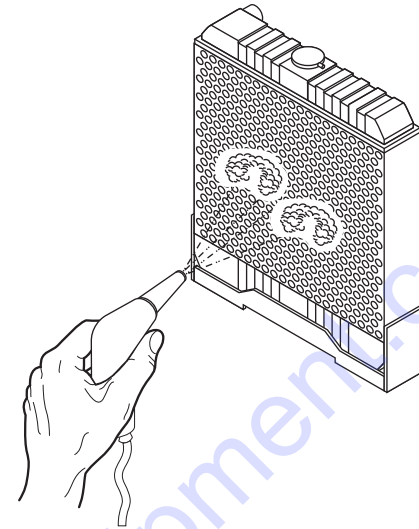

Figure 33. Radiator Cleaning
1. Blow off dirt and dust from fins and radiator with 28 psi (0.19 MPa) or less of compressed air (Figure 33). Be careful to not damage the fins with the compressed air.